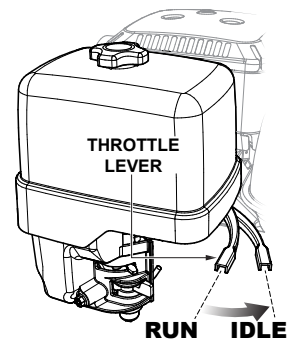

Figure 28. Throttle Lever (IDLE)
1. Place the throttle lever in the **IDLE** (slow) position, and let the engine idle for 3–5 minutes. See Figure 28.